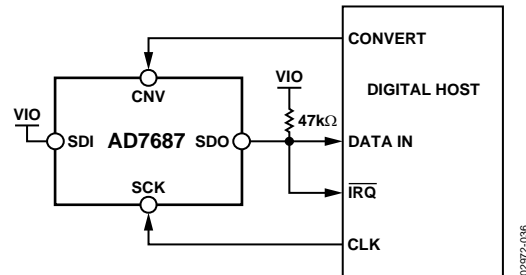
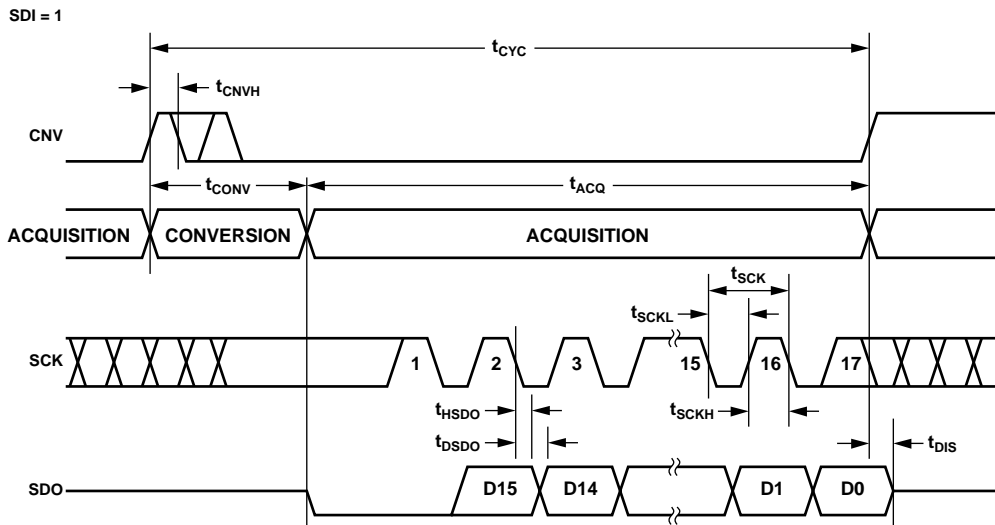
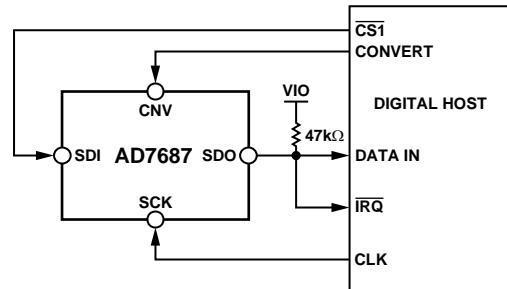
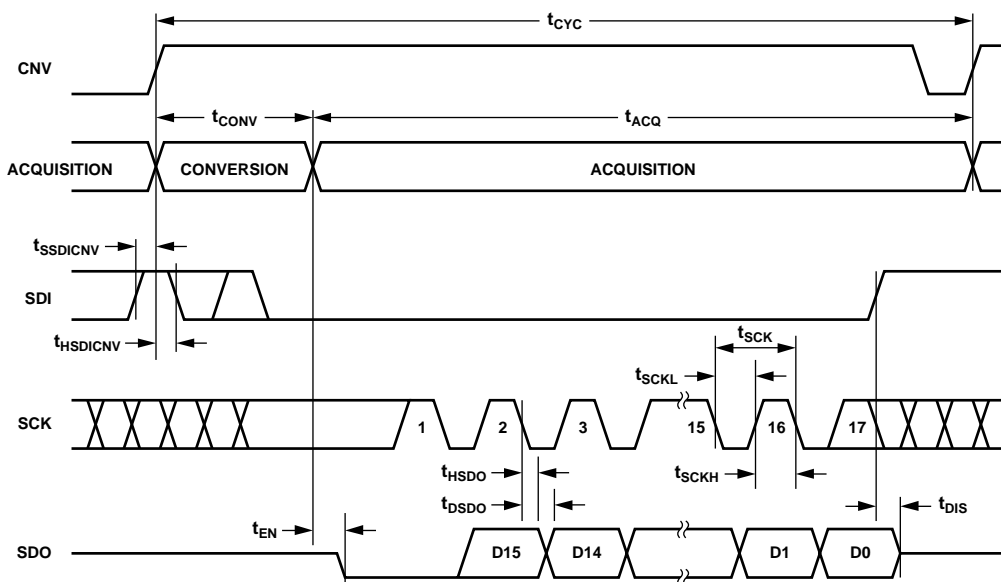

Figure 36.  $\overline{\text{CS}}$  Mode, 3-Wire with BUSY Indicator Connection Diagram (SDI High)
Figure 37.  $\overline{\text{CS}}$  Mode, 3-Wire with BUSY Indicator Serial Interface Timing (SDI High)
Figure 40.  $\overline{CS}$  Mode, 4-Wire with BUSY Indicator Connection Diagram
Figure 41.  $\overline{CS}$  Mode, 4-Wire with BUSY Indicator Serial Interface Timing
- In the  $\overline{CS}$  mode if  $\overline{CNV}$  or SDI is low when the ADC conversion ends (see Figure 37 and Figure 41).
Figure 36 shows the connection diagram and Figure 37 gives the corresponding timing.
Figure 40 shows the connection diagram and Figure 41 gives the corresponding timing.